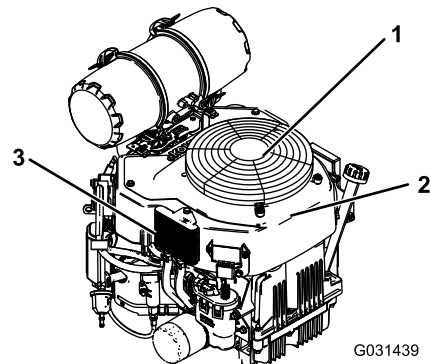

Figure 74
3. Remove the air-intake screen and fan housing (Figure 74).
5. Install the air-intake screen and the fan housing (Figure 74).